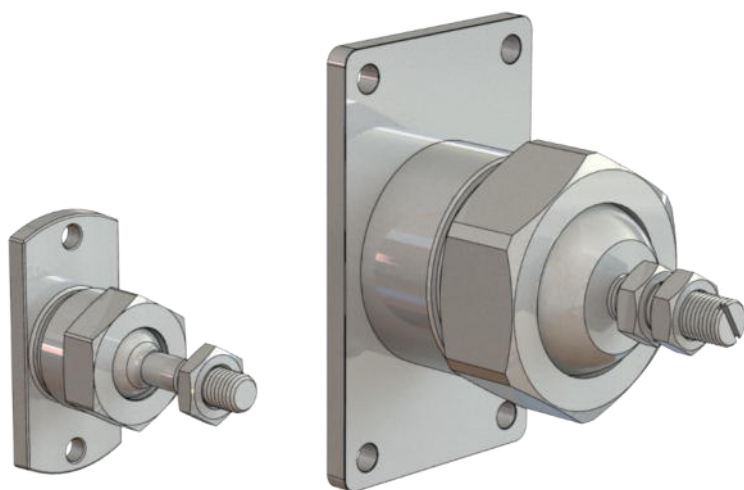

Figure 9 Swivel mount.
The detector shall be mounted together with the supplied swivel mount, *Figure 9*. See the Product Description *PDS-28146-SM* and the Installation Description (ID) for the complete installation procedure.